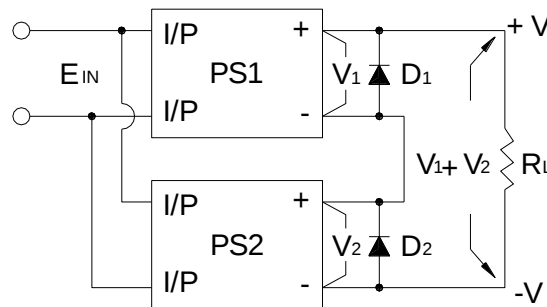

Figure 7.11: Series connection by adding external reverse blocking diodes
(2) Increase the output voltage (current does not change). If there is no reverse blocking diode in the power supply, we should add an external blocking diode to prevent the damage of power supply while starting up. The voltage rating of the external diode should be larger than $V_1 + V_2$ (as figure 7.11).